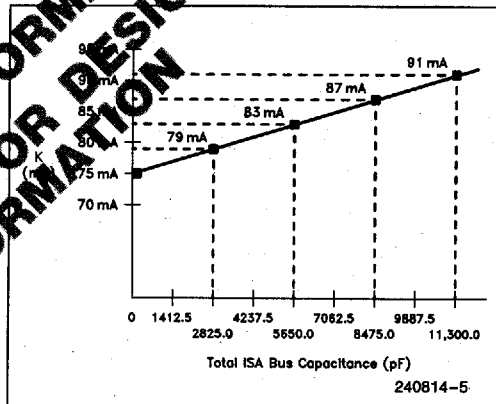

Figure 2.2. Variation of the constant current (K) with respect to the total ISA bus capacitance
The value K is constant only if the ISA bus loading is constant. Figure 2.2 shows the value of K for different values of ISA bus capacitance.
K = Is a constant in MilliAmps which determined by reading the value in Figure 2.2.
2. From Figure 2.2 draw a line from the horizontal axis (capacitance) where it intersects the diagonal line.
3. From Figure 2.2 draw a perpendicular line to the vertical axis to determine K.
Data provided in Figures 2.2 through 2.4b and in Tables 2.3-5 through 2.3-7 is based on engineering approximation and is given as an evaluation tool only.